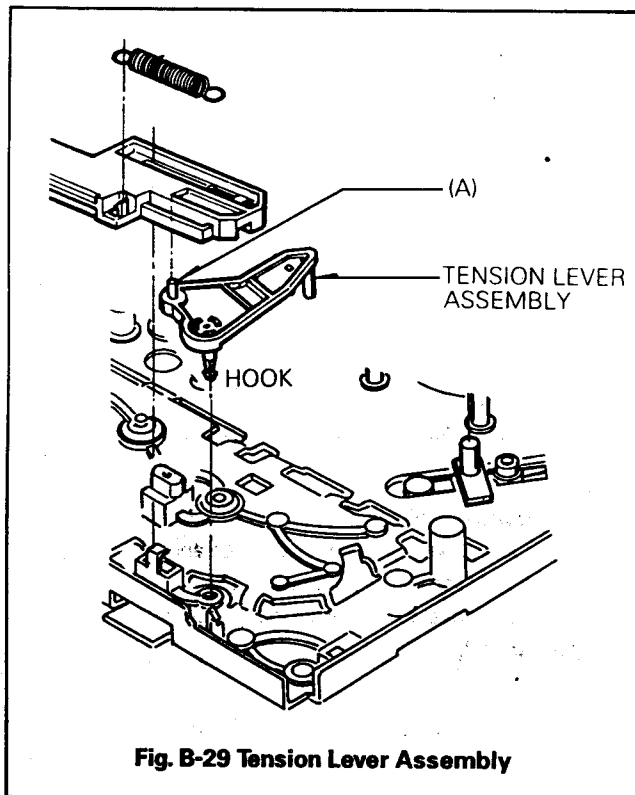

Fig. B-29 Tension Lever Assembly
- 1) When reassembling the groove of Lower part of Function Plate should be aligned with the shaft of Tension Lever Assembly (Fig. B-29).
29. Tension Lever Assembly(Fig. B-29)